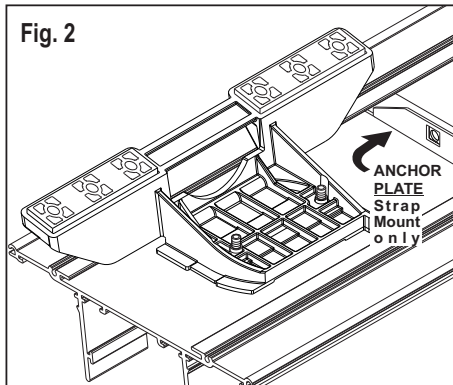

Fig. 2
2. Flip the lightbar upside-down to expose the bottom of the extrusion. Place the mounting foot into the extrusion and rotate the foot so that the top of the foot swings into position under the lips in the extrusion (Figs. 2, 3 & 4).